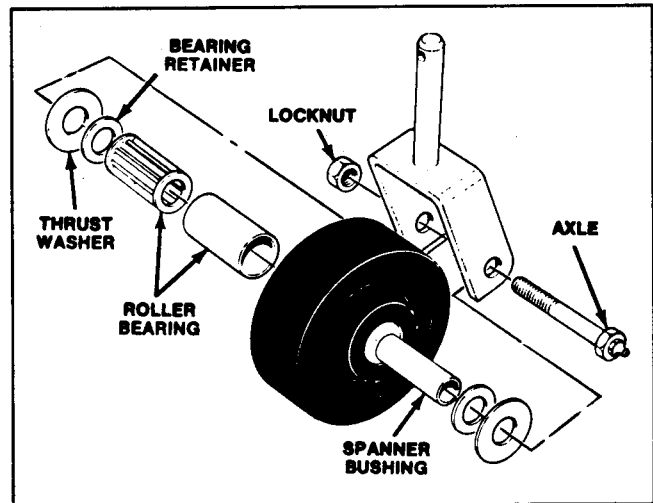

Figure 9
1. Remove locknut from castor wheel axle. Hold castor wheel and pull axle out of fork (Fig. 9).
2. Tip wheel to the side and allow roller bearing and spanner bushing to fall out (Fig. 9).